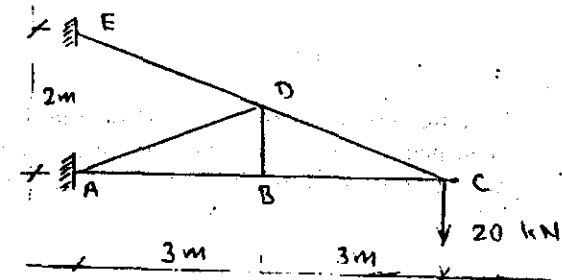

Fig.2
- For the truss shown in Fig.2, calculate the vertical deflection at D. $AE = 8 \times 10^4$ kN is constant for all members.